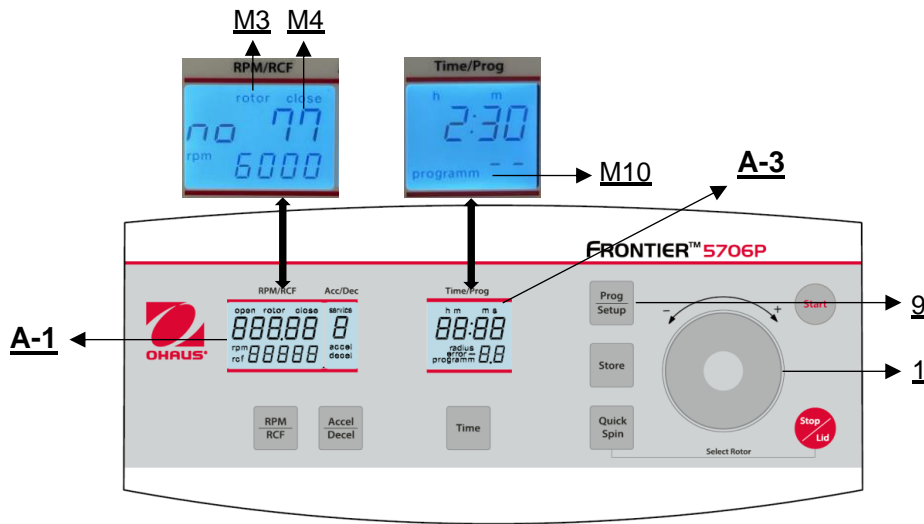

Figure. 24
To recall stored programs, press the key "Prog/Setup" (9) (see **Figure 24**) while the lid is already closed. Inside the display "Time/Prog" (A-3), "program--" (M10) appears. The desired program number can be pre-selected with the touch wheel (1).
To leave the program mode just press the key "Prog/Setup" (9) (see Figure 24). Then inside the display "Time/Prog" (A-1) the word "programm" (M10) appears. Set the display to "programm--" (M10) with the touch wheel (1).